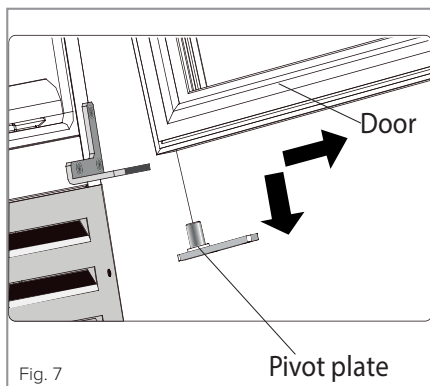

Fig. 7
2. Move the door away from the wine cooler slightly and remove the pivot plate from the bottom of the door as per Fig. 7. Lower the door from the upper hinge and place it somewhere safe where it will neither cause nor receive damage.